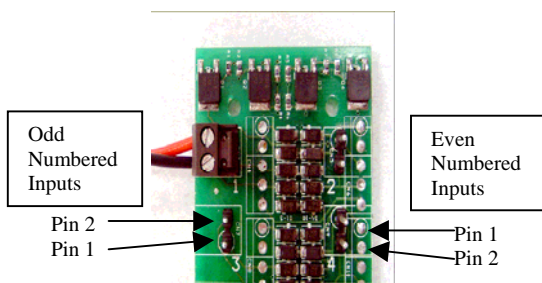

Figure 6A
3. Insert blue wire into pin #1 on provided terminal block in relay position 1 and the red wire into pin #2. Figure 6A shows the pin layout of the RIB board. Notice how Pin 1 and Pin 2 swap positions when comparing inputs on the two sides of the board.
4. Be sure connector is seated over both pins. Use Figure 6A, 6B, and 6C to properly install the terminal block. Repeat Steps 1 through 3 for all relays.